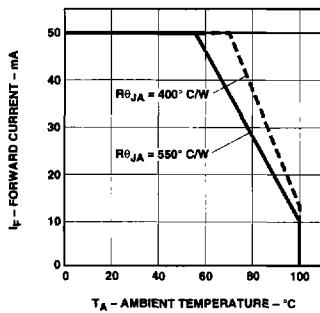

Figure 5. Maximum Forward DC Current vs. Ambient Temperature.
3. Derate linearly as shown in Figure 5.